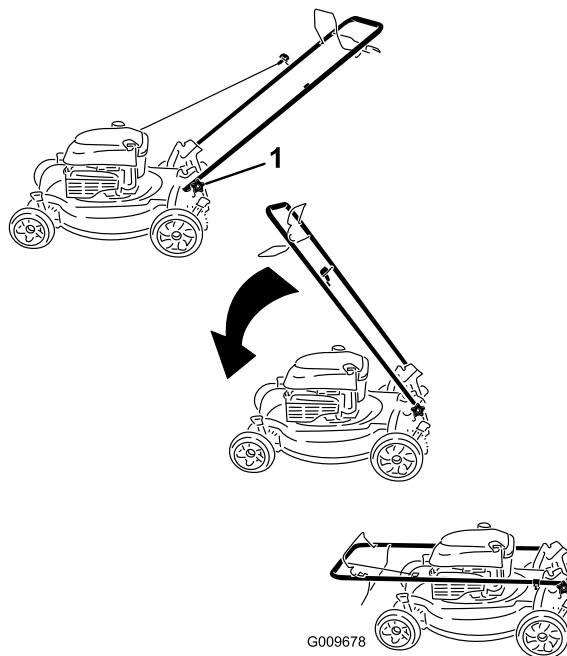

Figure 26
1. Loosen the handle knobs until you can move the handle freely (Figure 26).
1. Handle knob (2)
2. Move the handle forward as shown in Figure 26.